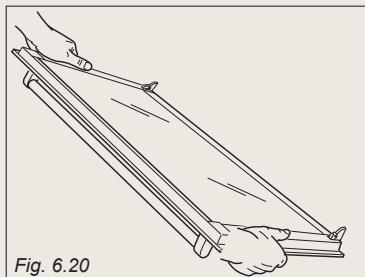

Fig. 6.20
1. Hold the door firmly (fig. 6.20).